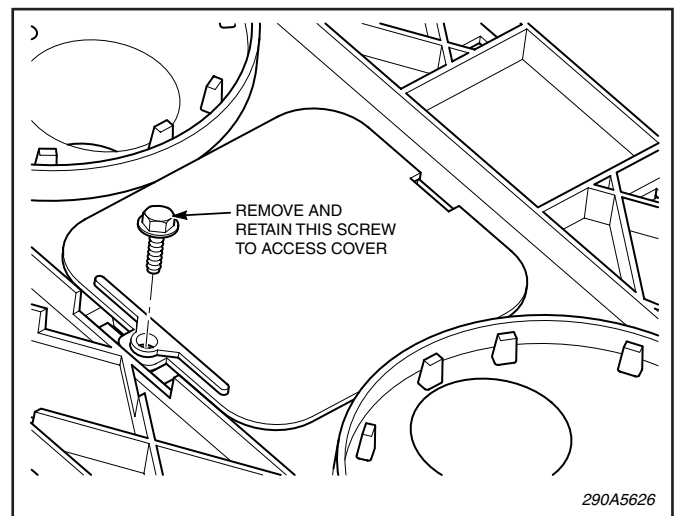
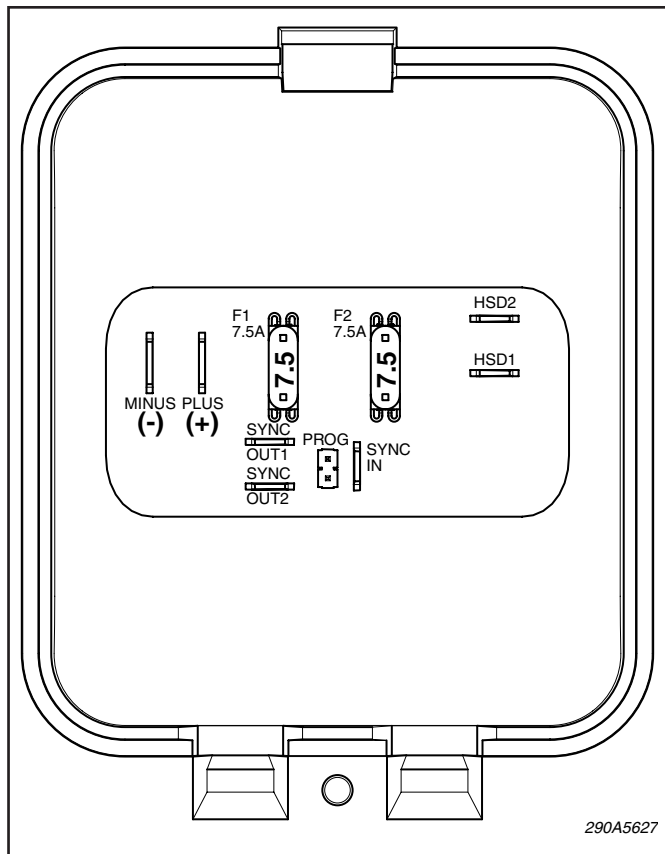

Figure 2.
Figure 3.
1. The permanent mount LED Highlighter is provided with 18" of lead wire or 15 feet of cable, pre-installed. This may have to be spliced into the harness using installer supplied terminals. There is the option of running an intact wire into the unit to avoid leaving a splice exposed. See figure 2. Remove the screw securing the wire entry cover with a 1/4" driver. Use a flat tip screwdriver to release the lock tab. See figure 3. Remove the 18" red and black wires. The harness wiring will need to be terminated using installer provided terminals. Crimp 1/4" Fast-on receptacles to the positive wire and ground wires.